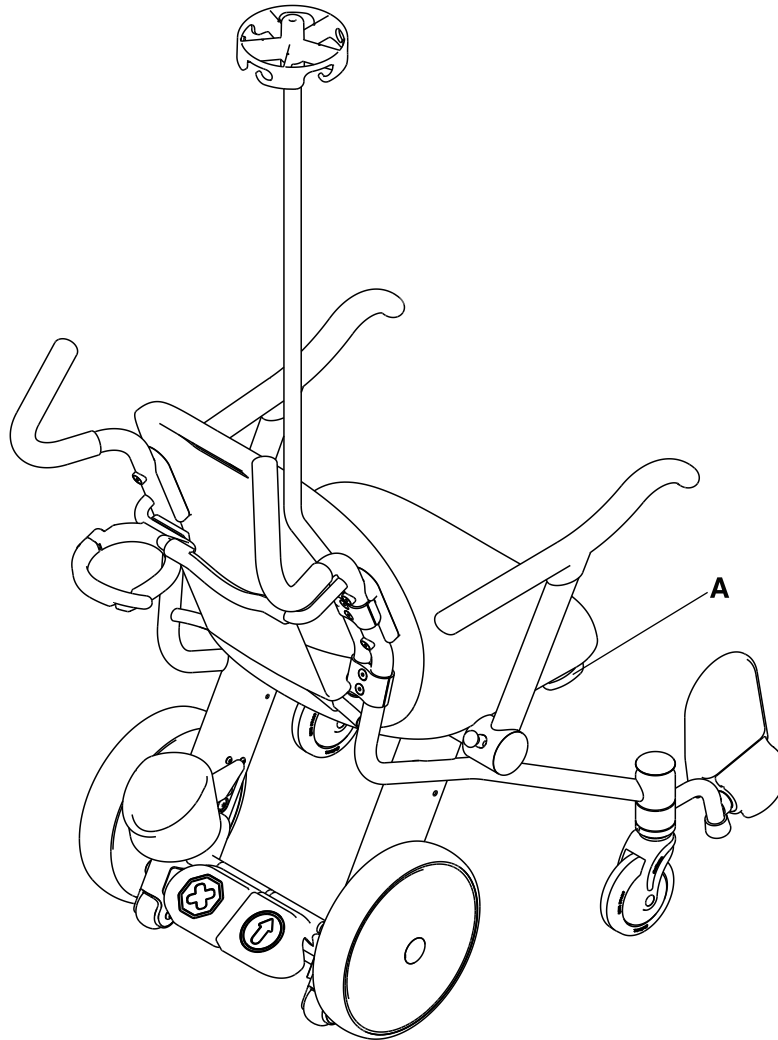

Figure 1-14: Foley bag hook location
To secure a foley bag to the optional foley bag hook, place the hook of the foley bag on the optional foley bag hook (A) (Figure 1-14 on page 1-26). Make sure that you have securely attached the foley bag.